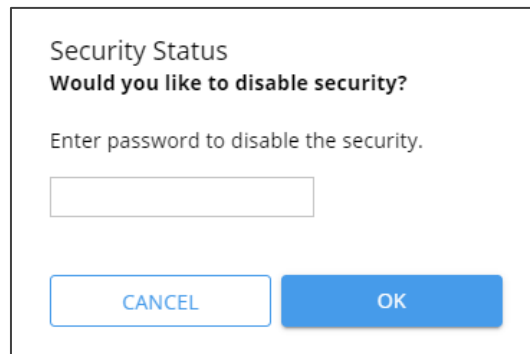

Figure 49: Security Status Message
1. Go to the Security page (Figure 49).
1. Go to the Security > Security (Figure 49).